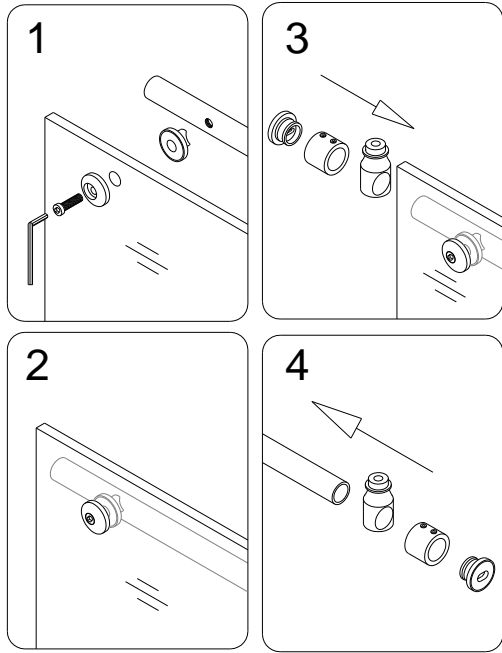

Fig. 5
5. Attach the **Running rail (03)** to the **Stationary glass panel (02)** with the preinstalled **Glass bracket (07)**. Slide the **Stoppers (01)** from each end of the running rail and temporarily secure them on the rail. Then slide the **Wall brackets (08)** on each end of the **Running rail** and temporarily secure them as well. See fig. 5&6 for details.